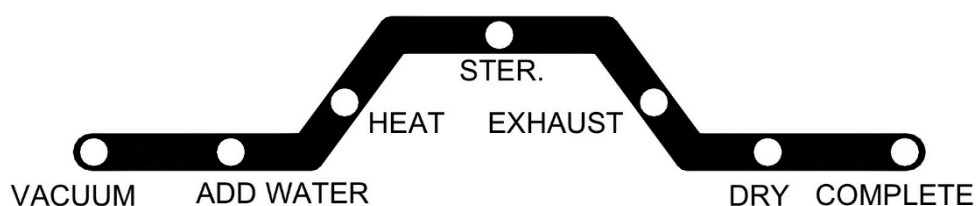

Figure 53
D. Press the START Button  and the sterilizer will automatically run through the selected program. The current progress of the sterilization cycle is indicated by the illuminated LED on the Process Status Indicator. (Figure 53)
G. Press the START Button **START** and the sterilizer will automatically run through the selected program. The current progress of the sterilization cycle is indicated by the illuminated LED on the Process Status Indicator. (Figure 53)